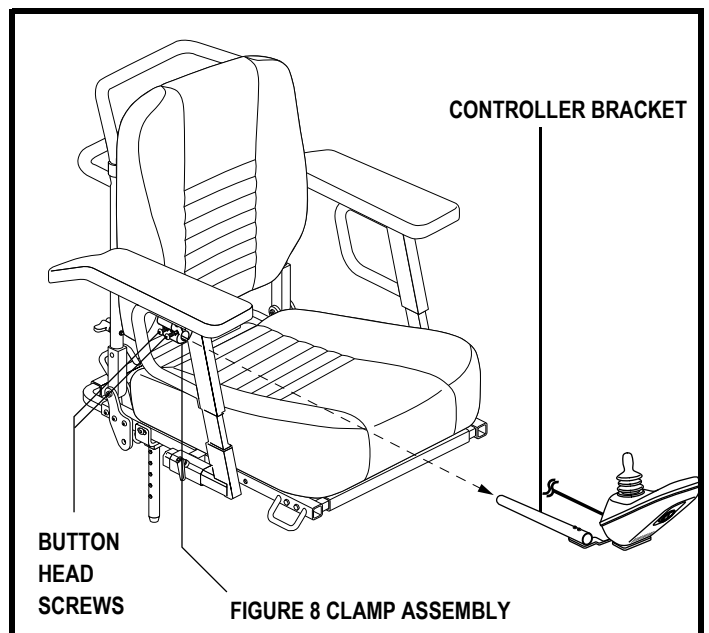

Figure 19. Controller Position
4. Loosen the button head screws on the figure 8 clamp assembly located on the armrest. **See figure 19.**